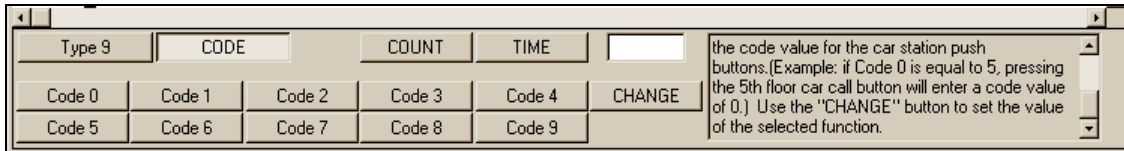

Figure 71
**PROGRAM B, FRONT, REAR, SECURE, UNSECURE, and CHANGE** appear on the Definition Bar. A list box of floor numbers also appears near the center of the Definition Bar to assist the user with setting the security floor. The description pane on the right side of the Definition Bar is the instructions for setting up the security information. It has a scroll bar attached to it, indicating that there is more text within the description pane than can be viewed at one time. To view all of the text within the description pane the user needs to click on the up and down arrows located to the right side of the description pane. Refer to Figure 71.